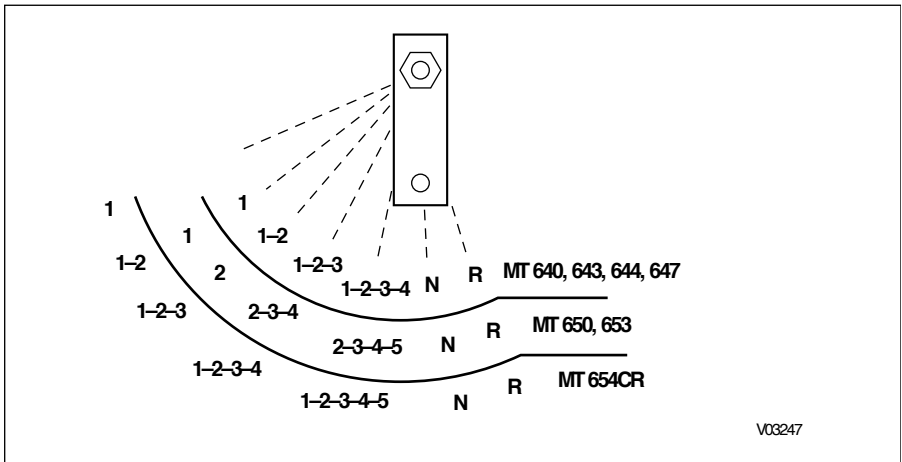

Figure 5-1. Shift Selector Positions
- Place the operator's shift selector control at the **N** (Neutral) position. Place the selector lever (on the transmission) in the **N** (Neutral) position (Figure 5-1).